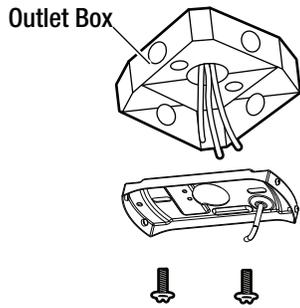

Figure 6
- Secure the mounting plate to the ceiling outlet box as shown in Figure 6 by using two screws and washers (not provided). Make sure the mounting plate is level. You may need to insert additional washers (not provided) between the outlet box and the mounting plate to make it level.